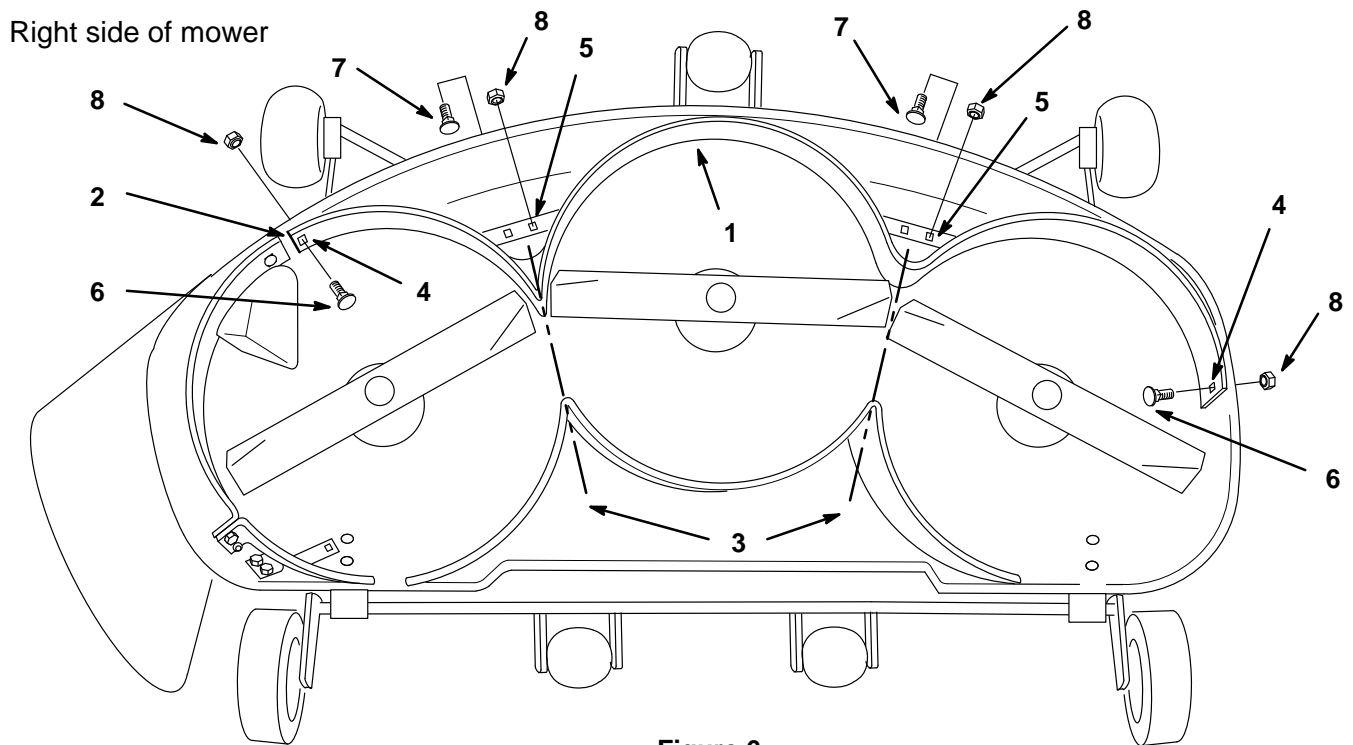

Figure 6
- Place front baffle inside mower and align with front contour of mower and center lines between blades. Clamp left and right sides (Fig. 6).
- Using the baffle as a guide, drill (2) 11/32" holes in the mower at the ends of baffle (Fig. 6).
- Select one of the two holes in the mounting brackets (Fig. 6). Using the baffle as a guide, drill (2) 11/32" holes in the mower at the mounting brackets (Fig. 6). File these holes in the mower square, to accept the carriage bolt heads (Fig. 6).
- Place (4) 5/16-18 x 3/4" (19 mm) carriage bolts with heads on the inside of the ends and on top at the mounting brackets as shown (Fig. 6). Secure with 5/16" locknuts (Fig. 6).